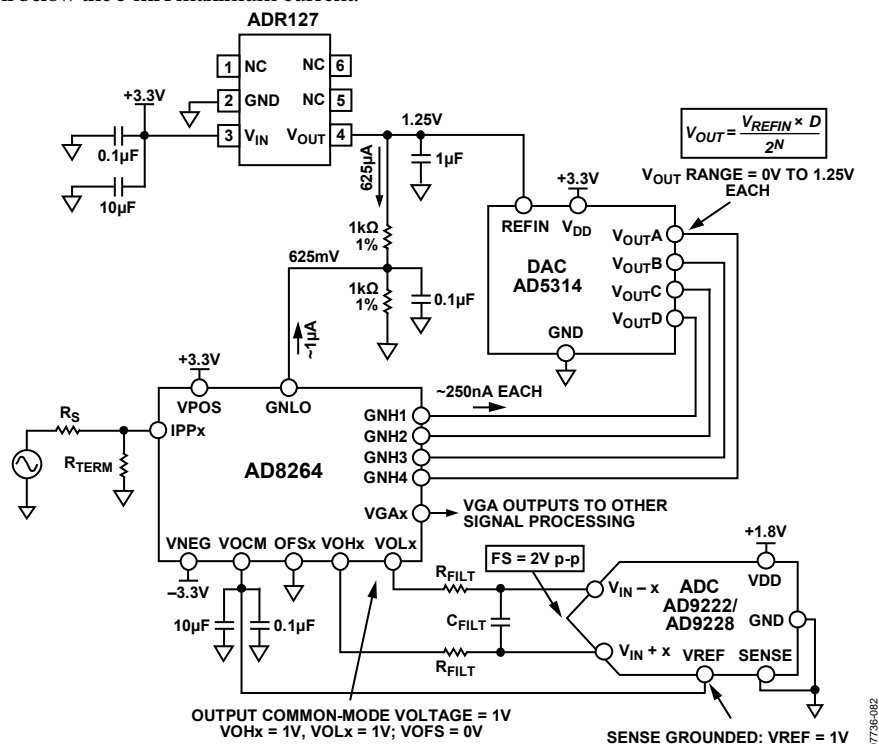
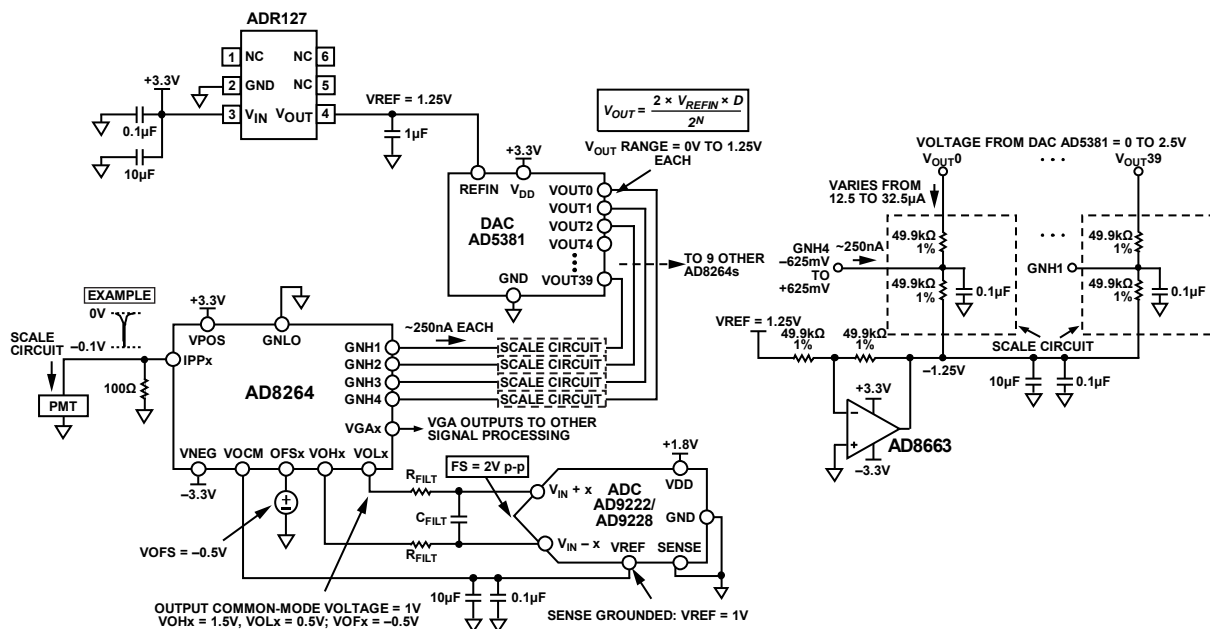

Figure 112. Application Concept of the AD8264 with the AD5314 10-Bit DAC and the AD9222/AD9228 12-Bit ADC
Figure 113. Concept Application of AD8264 with 40-Channel AD5381 12-Bit, 3 V DAC and AD9222/AD9228 12-Bit ADC
The AD8264 is particularly well suited for use in the analog front end of medical PET imaging systems. Figure 112 shows how to use the AD8264 with the AD5314 (a 4-channel, 10-bit DAC) and the AD9222/AD9228 (an octal or quad, 12-bit ADC, respectively). The DAC sets the gain of the AD8264. Note that the full gain span of 24 dB is achieved with this setup because the gain control input range of the AD8264 is very close to 1.25 V. The GNLO pin must offset by $1.25/2 = 625$ mV because the gain control input is bipolar around the voltage applied at GNLO. This is done with two 1 k Ω , 1% resistors. The approximately 1 μ A of bias current flowing from the GNLO pin does not contribute a significant error because the basic gain error of the AD8264 is the limiting factor.
Figure 112 also includes the DAC output equation, which indicates that the output can vary between 0 V and $V_{\text{REF}} = 1.25\text{ V}$.
The single-ended-to-differential amplifier of the AD8264 amplifies the VGA output signal by 6 dB and can provide the required dc bias of the AD9222/AD9228, as shown in Figure 112. The ADC is connected with the default internal reference because the SENSE pin is grounded. With this connection, the AD9222/AD9228 VREF pin is an output that provides 1 V; this is then connected to the VOCM input of the AD8264, which sets the output common-mode voltage of the VOHx and VOLx pins to 1 V. This voltage is very close to the recommended optimal value of $V_{\text{DD}}/2 = 0.9\text{ V}$. With this configuration, the ADC inputs are set to a full-scale (FS) of 2 V p-p.
The dc connected concept example in Figure 113 is an application with the 40-channel AD5381, 3 V, 12-bit DAC. The main difference between this example and Figure 112 is that, for the same ADR127 1.25 V reference, the full-scale output of the DAC is from 0 V to $2 \times V_{REFIN} = 2.5$ V. Two options for gain control include the following:
- Use the same circuit as in Figure 112 but use only half the DAC output voltage from 0 V to 1.25 V. This is the simplest solution, requiring the fewest extra components. Note that the overall gain resolution increases by one bit to 11 bits over the 10-bit AD5314.
- Ground GNLO and scale the DAC output so that the GNHx inputs vary from -0.652 V to $+0.625$ V. Figure 113 shows a possible circuit implementation using a divider between the DAC output and a -1.25 V reference.
Figure 113 shows how the AD8264 is connected in a PET application. The PMT generates a negative-going current pulse that results in a voltage pulse at the preamplifier input and a differential output pulse on VOLx and VOHx.
A convenient method of verifying and customizing the signal chains shown in Figure 112 and Figure 113 is by ordering the corresponding evaluation boards available on www.analog.com. The AD8264-EVALZ is a platform through which the user can quickly become familiar with the features and performance capabilities of the AD8264. See the Evaluation Board section for more information.